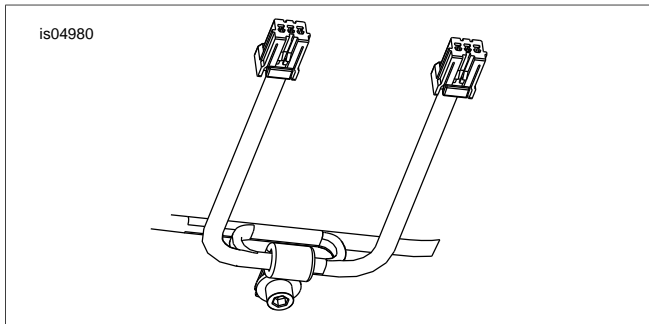

Figure 5. Routing the Wires
- See Figure 5. Route the wires behind the fork tubes. Feed both signal wires through the P-clamp in the direction opposite that from which they originated, so the wire is heading back toward its own turn signal lamp.